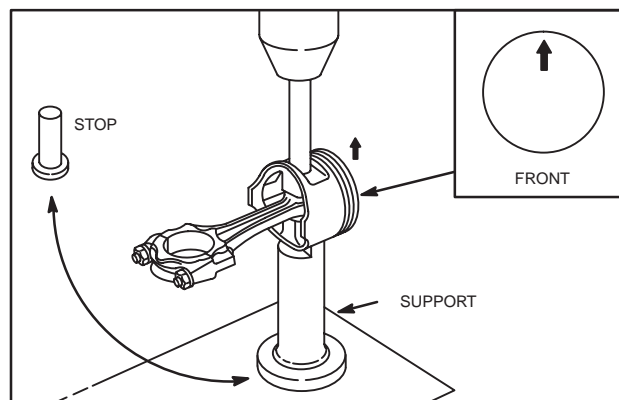

Fig. 2 – Disassembling Piston/Connecting Rod
2. Disassemble piston from connecting rod using piston pin fixture, Tool #19419, Fig. 2.